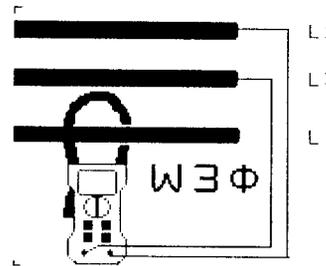

Fig. 5
- A screen prompt, Fig. 5, indicates the above method of connection.
- Press the trigger to open the jaws and clamp them around the current carrying Phase L1, as shown in Fig. 5.